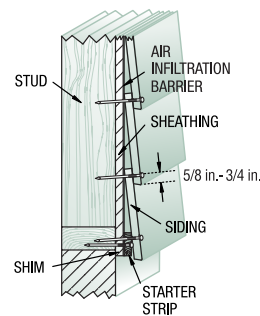

FIG. 4
- Although not recommended, where 24 in. o.c. vertical framing is used, wood-based sheathing is required. Follow product-specific nailing pattern (*see Fig 4*). Nail to framing 24 in. o.c. with intermediate nailing 12 in. o.c. to sheathing with a 6d galvanized ring shank nail or equivalent. This effectively creates a 12 in. o.c. nailing schedule.
- For **Standard Lap** products overlap successive courses at least 1 in. *See Fig 4.*
- Nail lap products 5/8 in. to 3/4 in. above the drip edge. Be sure nails penetrate through both pieces of siding and into studs. *See Fig 4 & 5.*